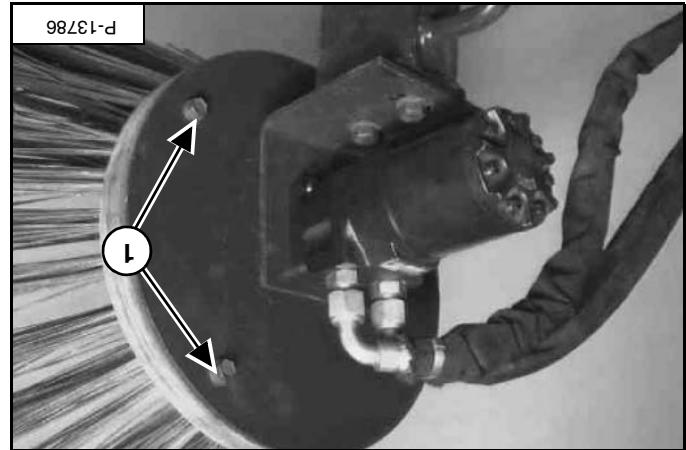

Figure 137
Remove the four mounting bolts (item 1) [Figure 137] and remove the bristle assembly.